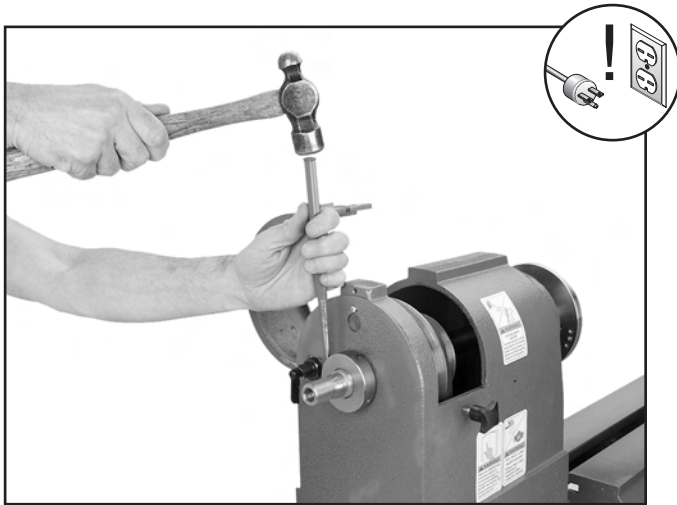

Figure 51. Unseating outboard spanner nut.
12. Loosen the set screws on the spanner nut, and use a spanner wrench or a hammer and a punch to loosen and remove the nut, as shown in **Figure 51**.